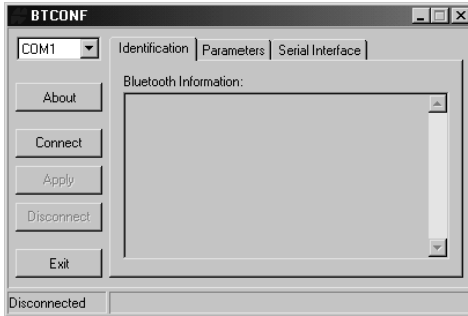

Figure 3-10. Bluetooth Module Configuration Main Screen
3. Run the Bluetooth module configuration program (Btconf.exe) (Figure 3-10).